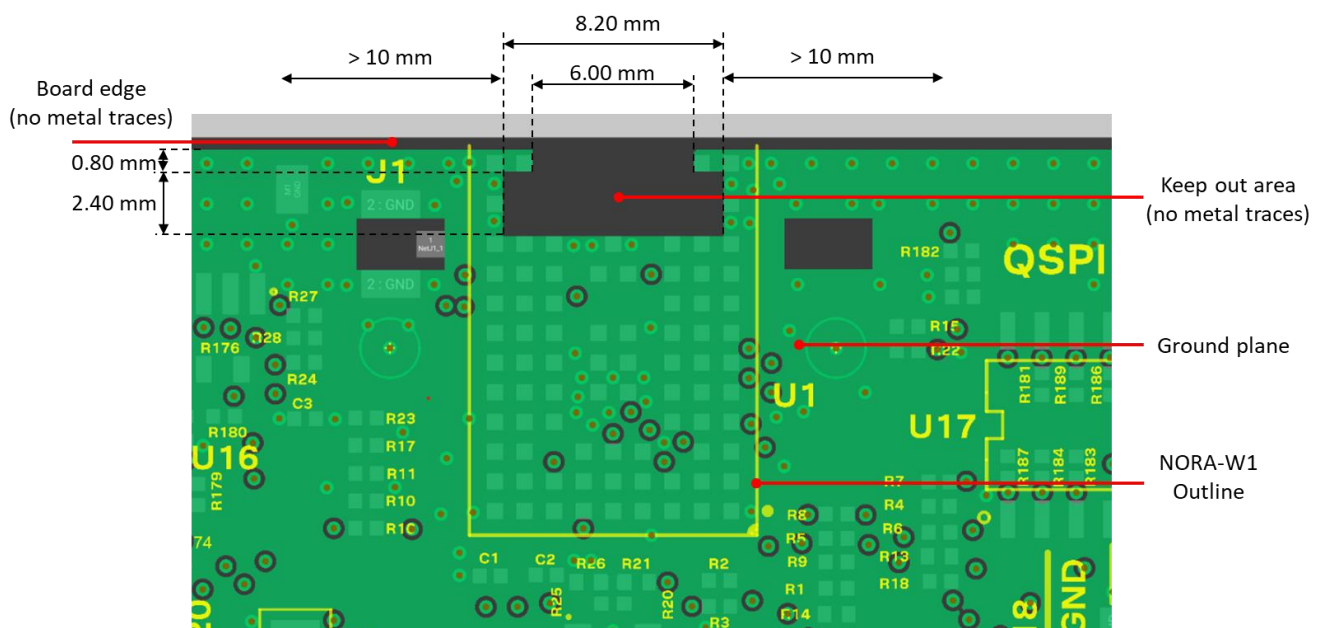

Figure 9: Antenna keepout area and GND plane design
- A large ground plane on the host PCB is a prerequisite for good antenna performance. It is recommended to have the ground plane extending at least 10 mm on the three non-edge sides of the module as shown in Figure 9.
- The host PCB shall include a full GND plane underneath the entire module, with a ground cut out under the internal PCB trace antenna on all layers as shown in Figure 9.
- At least 10 mm clearance between the antenna and the casing is recommended. If the clearance is less than 10 mm, the antenna performance can be adversely affected. Polycarbonate (PC) and Acrylonitrile butadiene styrene (ABS) materials have less impact on antenna performance than other types of thermoplastics.
Figure 9 shows a typical trace and ground design for NORA-W106, including the critical dimensions between the ground plane and three non-edge sides of the module.